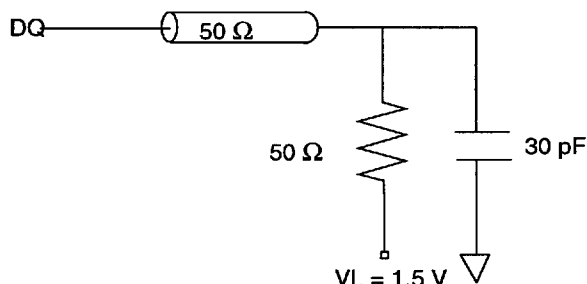

Fig. 1 Test Equivalent Load
3. See AC Test Loading figure 1 on page 9.